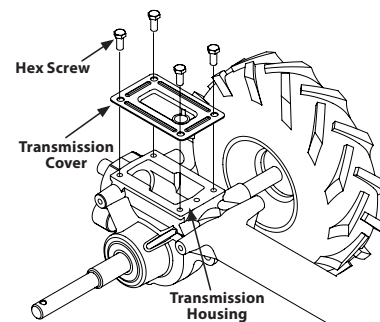

Figure 23
4. Remove all dirt and clean the area around the transmission cover. See Figure 23.
5. Remove the four hex screws ($\frac{5}{16}$ -18 x .75) securing the transmission cover to the drive shaft and remove the cover. See Figure 23.